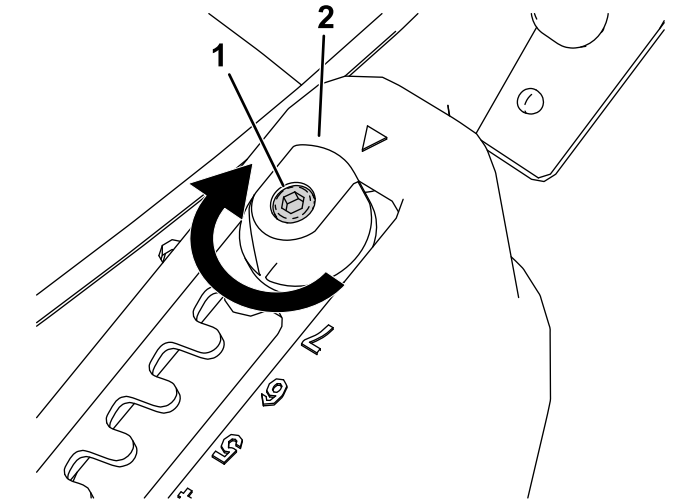
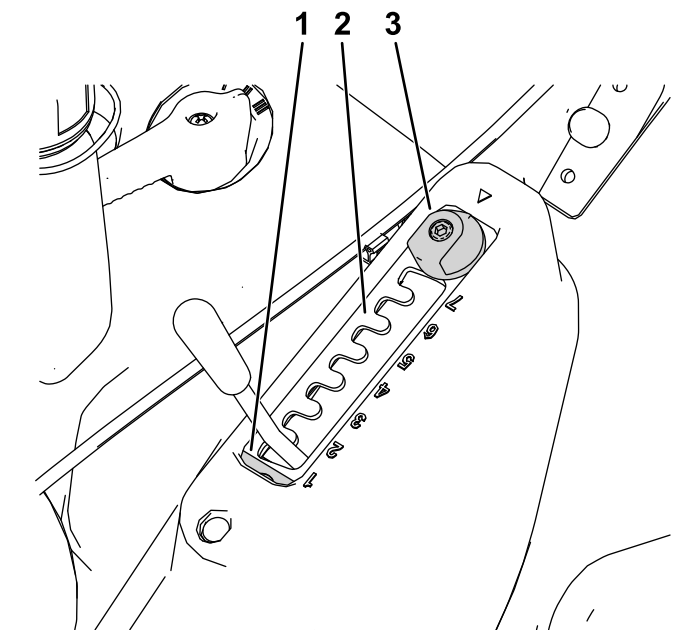

Figure 13
Figure 14
- 1. Loosen the selector plate retaining bolt with an Allen wrench (Figure 13).
- 2. Turn the matchcut adjuster 180° (Figure 13 and Figure 14).